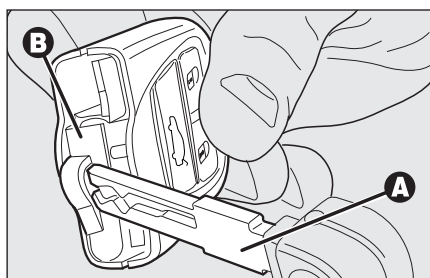

fig. 10
- ☐ remove the snap-fitted case **B-fig. 10** (red) by levering with the metal insert **A** of the electronic key in the point shown in the figure;